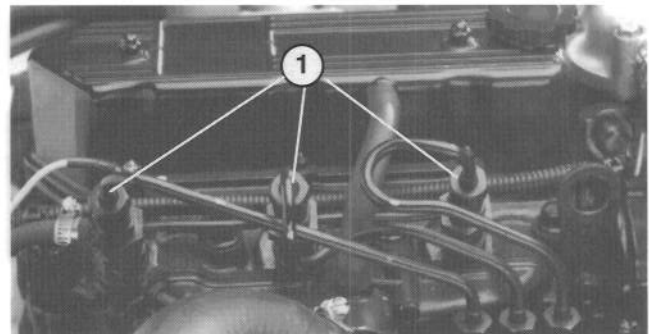

Figure 39
BLEEDING AIR FROM INJECTORS (Fig. 39)
2. Loosen the pipe connection to the No. 1 nozzle and holder assembly (Fig. 39).